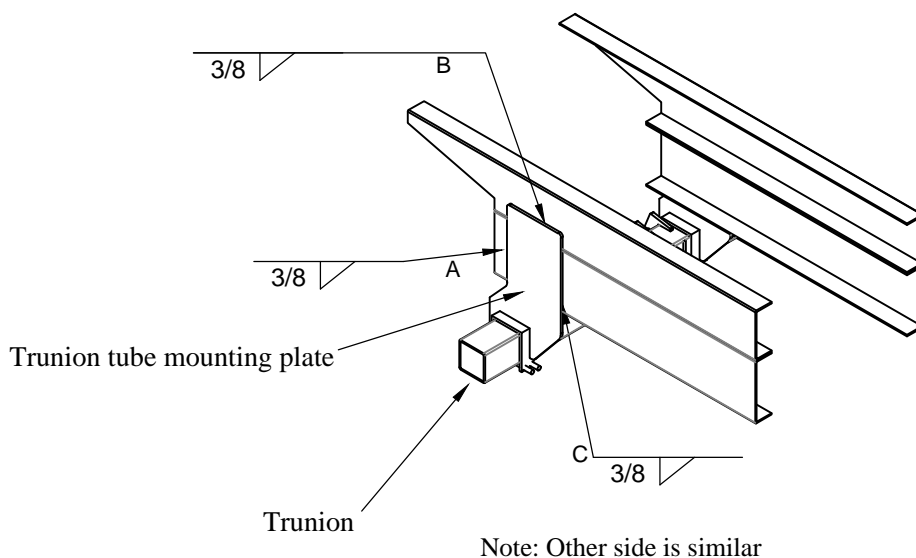

Figure 25: Finish Weld Locations.
17. **Tack Weld** on the trunion tube mounting plates to the truck frame using 3/8" fillet welds, 1" long in locations A, B and C (Figure 25).
- 2 Finish Welding** the trunion tube mounting plates to the truck frame with 3/8" fillets (Figure 25).